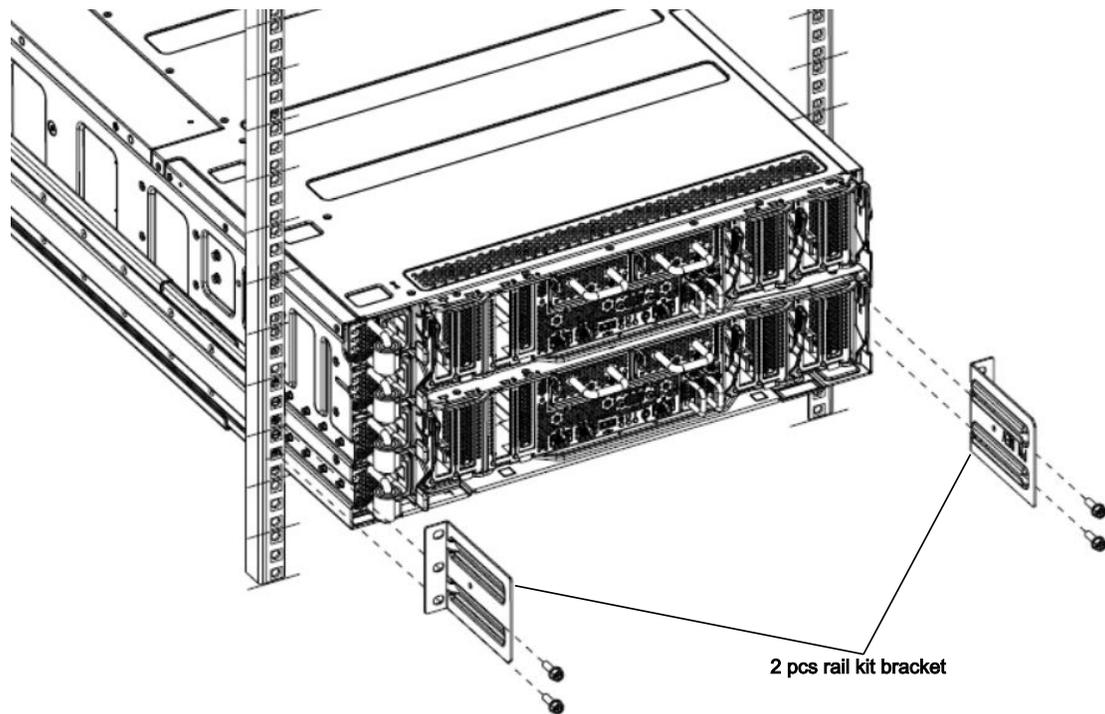

Figure 245. Installing the rail end brackets.
5. Fit the rail end brackets to the back of the control enclosure rails as shown in Figure 245 on page 330